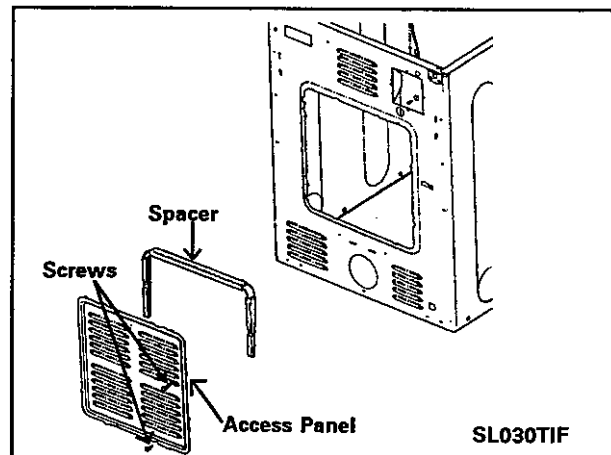

Figure 5-15
1. Remove the four hex-head screws surrounding the access panel (Figure 5-15).